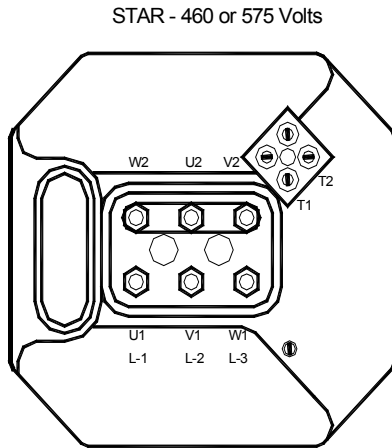

Figure 2: Terminal box connections for 460 or 575 Volt 3 Phase, 60 Hz operation.
It is a good policy, prior to vibrator mounting, to measure winding insulation resistance by meggering; this reading should be greater than 1 megohm. If the winding has become damp, resulting in an unacceptable megger reading, the stator winding must be thoroughly dried and re-meggered and a satisfactory reading obtained prior to vibrator installation. In the event of an unacceptable megger reading, please contact Hindon Corporation directly and advise reading along with vibrator model and serial number. Most vibrators are dual voltage 230/460 (verify electrical data by reviewing the vibrator nameplate) and are normally factory configured for 460 Volt operation. For 575 Volt winding “Star” connection as shown in figure 2 (pg. 5) would apply. Configuring for 230 Volt operation is easily accomplished by adjustment of the link plates (buss bars) on the terminal block. For specific terminal box connections, please refer to Figures 2 and 3 on the following page. For details on wiring of thermistors that are supplied in Invicta models BL 24 – BL 75, please refer to section 3.2.3
- 1) Verify that the terminal connections are correct by referring to Figures 2 and 3, if not: